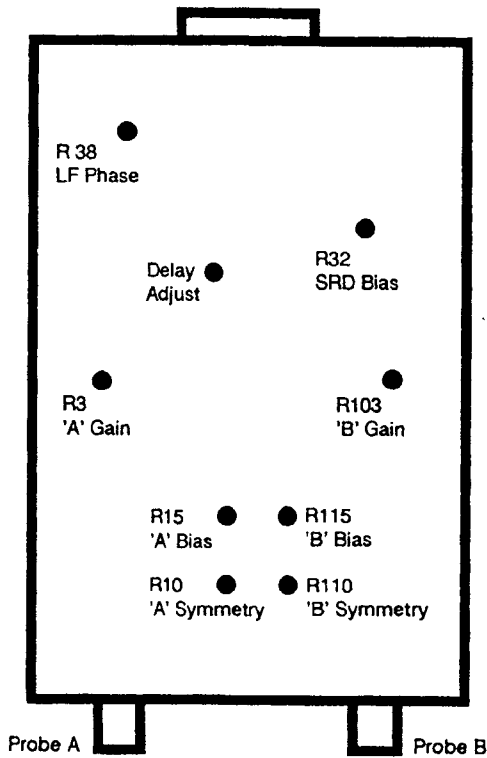

Figure 5-1. Input Module Adjustment Locations
- 5. Adjust R32 (refer to Figure 5-1) to obtain a maximum reading on DISPLAY 1.